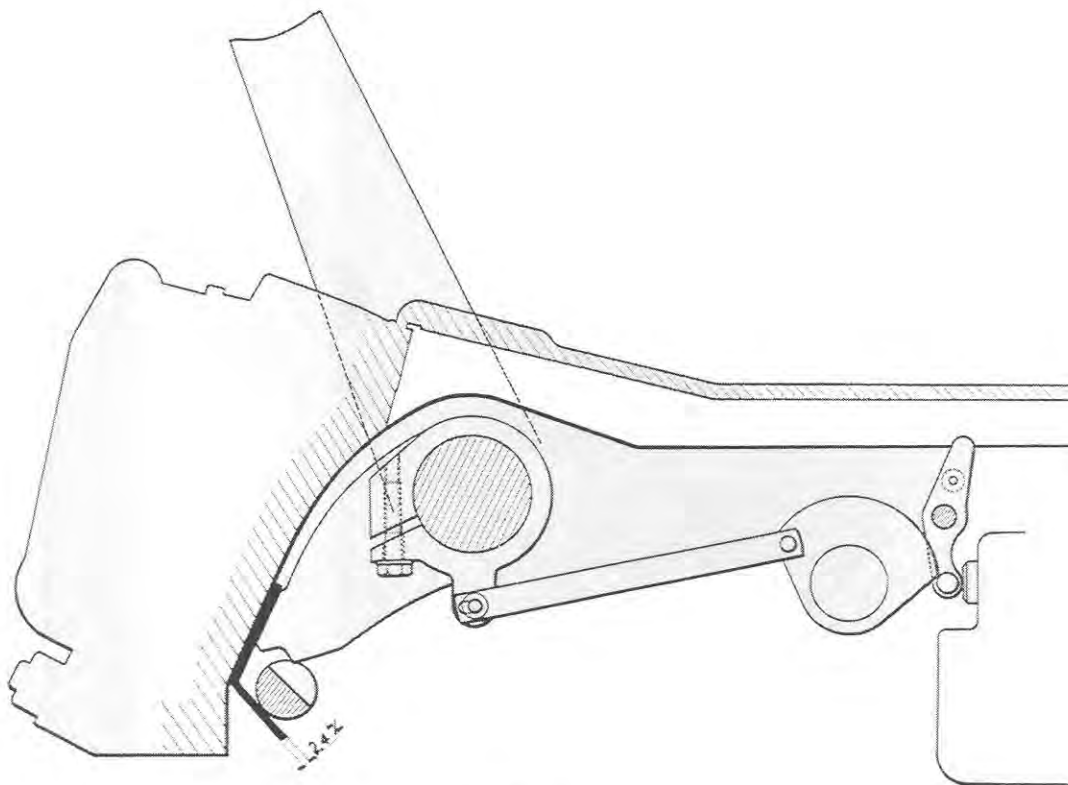

Fig. 21
- 1) Place the lift arms in their maximum raised position with a shim or spacer of 0.09" (2.4 mm) fitted between the ram arm and the housing (Fig. 21).